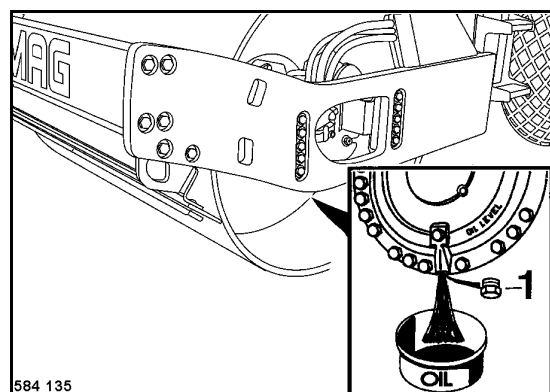

Fig. 162
- Move the drum, until the drain plug 1 (Fig. 162) is in bottom position.